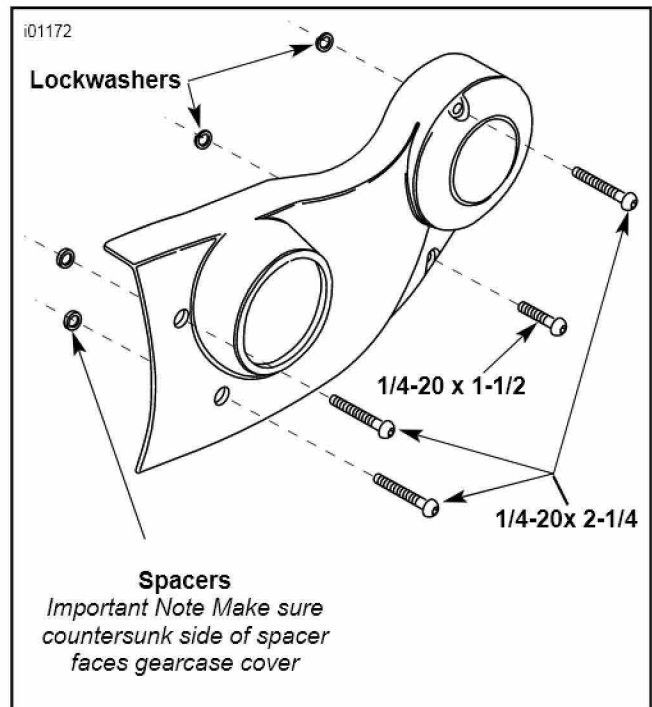

Figure 2. Installing Chrome Gearcase Cover
3. See Figure 2. Install the four gearcase cover chrome buttonhead screws, lockwashers, and spacers (as shown in illustration) in positions 5,6,8, and 11 and tighten screws to 80-100 **in-lbs** (9-12 Nm).